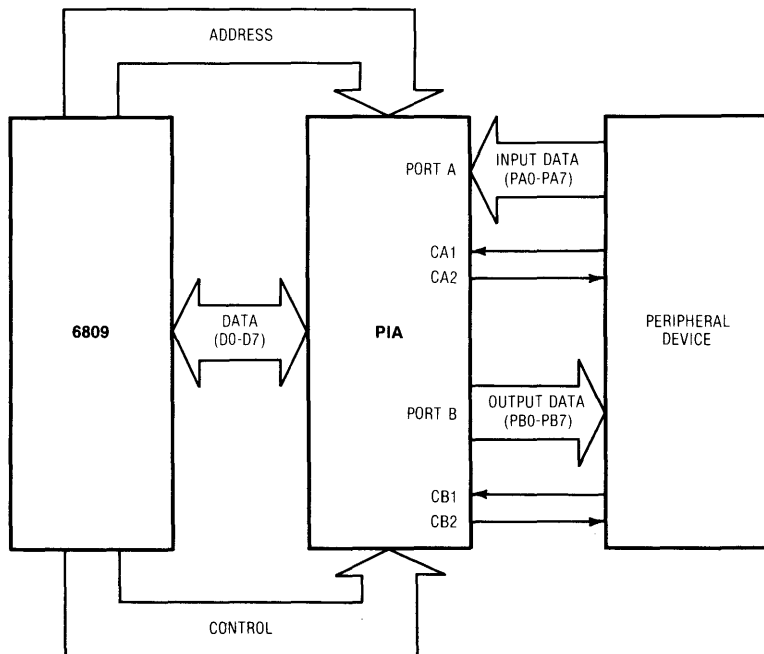

Fig. B-10. Complete input and output handshaking using the PIA.
You will use CA2 as an output for polling and handshaking routines. Handshaking or polling requires the use of status bits that would indicate when a peripheral device has requested service and when the 6800 has completed the service. The use of CA1 as an input and CA2 as an output as shown in Fig. B-10 will provide the proper status levels to permit handshaking between the 6809 and a peripheral device. The procedure will be as follows.
If you do not desire to use interrupts and decide to use programmed i/o, CA1 could be eliminated from Fig. B-10 and CA2 would be used as an output to signal the peripheral device. Here, the peripheral device would make data available on a continuing basis to the PIA port, but it needs to know when the 6809 has read the data from the data register so that new data can be supplied. This is a partial handshake. In this mode, CA2 will normally be high, then go low after a read-port A operation is executed. It will remain low for one enable signal (E) cycle. To achieve this mode, CRA-5 and CRA-3 must be set with CRA-4 cleared. Therefore, bits 5, 4, and 3 of control register A would be 101.